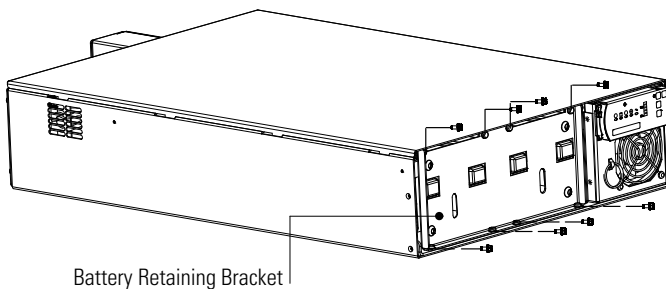

Figure 10. Battery Retaining Bracket
2. Unscrew and set aside the battery retaining bracket (see Figure 10).